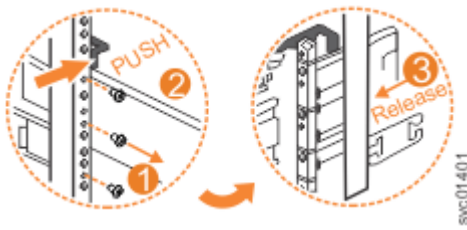

Figure 123. Remove the rail assembly from the rear frame bracket
3. Remove the two screws that attach the inner rail section to the rear bracket, as shown in Figure 123 on page 189.
4. Pull the rail forward away from the rear bracket, as shown in Figure 123 on page 189.